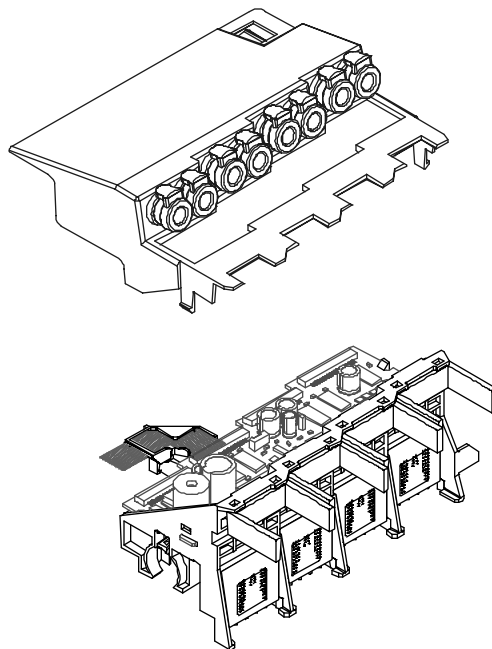

Figure 5-10. Electronics Cover Removal.
4. With a flathead screwdriver, press the Electronics Cover (p/o the Ink Delivery System) tab located in the upper slot on the left side of the Carrier Assembly. See Figure 5-10. Lift up on the front left side of the Electronics Cover until it comes part way off of the Carrier Assembly. Then lift up on the front right side of the Electronics Cover and move the Electronics Cover slightly to the left so that the back of it clears the Back Support Bracket.